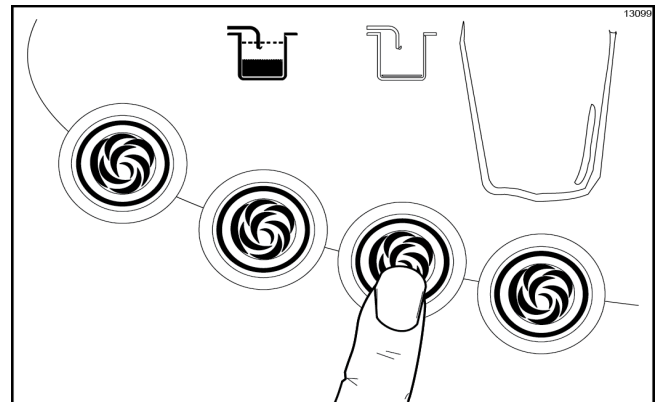

Figure-51
10. Press the corresponding syrup Flavor symbol . The Flavor symbol should be illuminated and the syrup pump for the selected flavor will start running at the maximum speed. (See Figure-51.)